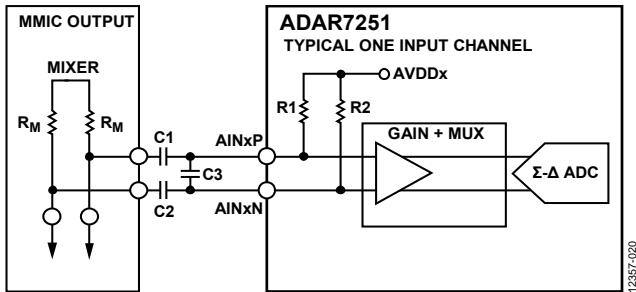

Figure 29. Typical Differential Input Channel Configuration
The ADAR7251 main ADC input channel consists of an LNA, a PGA, a continuous time Σ-Δ ADC, and internal bias resistors that set the common-mode voltage on the input of the LNA. The PGA includes an equalizer (EQ) function that gains up low amplitude, high frequency signals. Typically, in an automotive radar application, the analog inputs of the ADAR7251 connect directly to the mixer output (See Figure 29). If additional external filtering is required, the external C1, C2, and C3 capacitors can be used. These capacitors, together with the R1, R2, and the mixer output impedance, create an external filter that removes dc components and high frequency noise from the ADC inputs.
where $R1 = R2$ (typical) is 2.86 kΩ and $C2 = C1$ (see Figure 29).